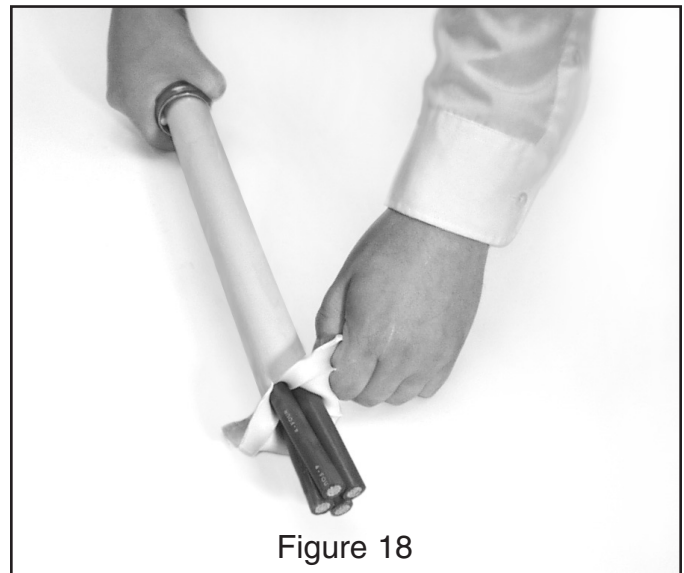

Figure 18
2. Cut through inner jacket at very end of the cable, then pull apart and peel back inner jacket to end of longitudinal cut. (Figure 18)